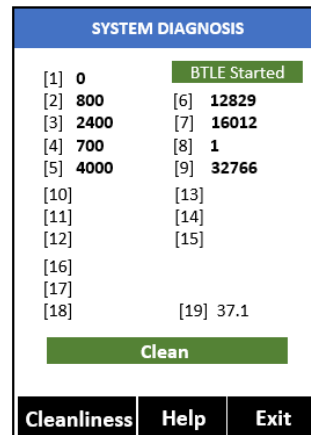
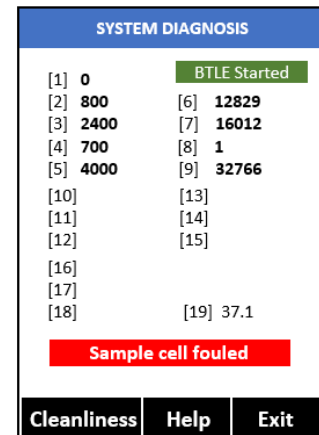

Figure 10.
Figure 11.
8. Once the Cleanliness Check is completed a **Clean** message (Figure 10) or **Sample cell fouled** message (Figure 11) will appear towards the bottom of the display.